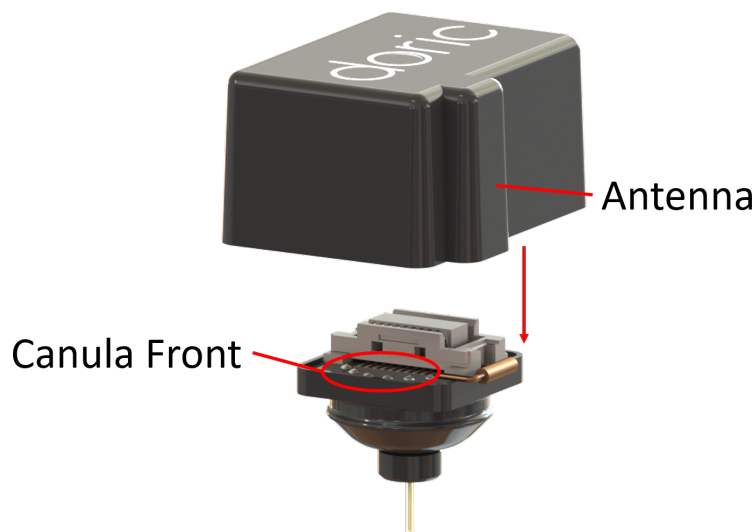

Figure 2.4: Headstage placement
4. The headstage is connected to the cannula using a snap-on connector. For the two elements to connect properly, the headstage antenna ridge must be oriented towards the front of the cannula, as shown in Figure 2.4.